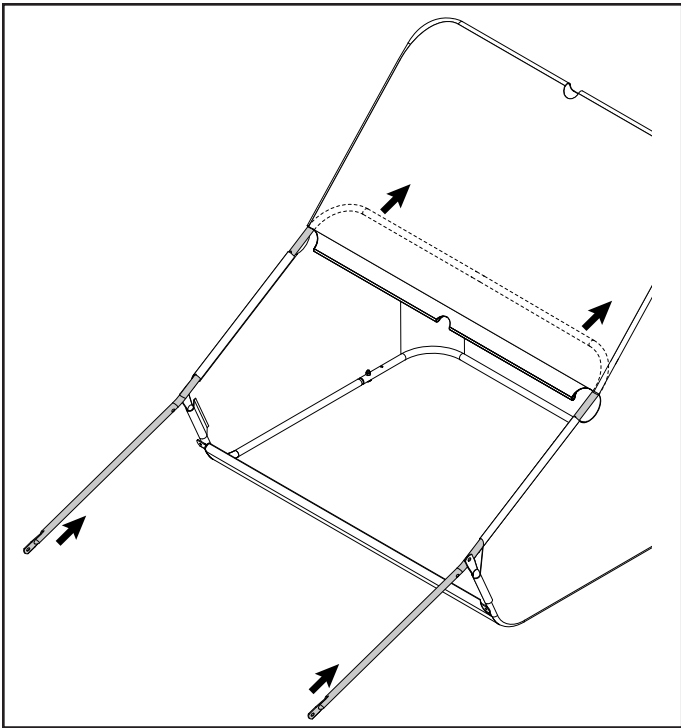

FIGURE 12
19. Slide the assembled tubes back up underneath the wind screen as shown in figure 12.